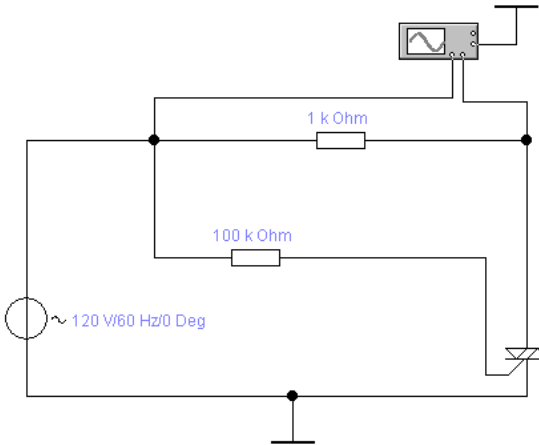

Figure 7.3 – The simister research
8. Draw a schematic diagram of fig. 7.3.